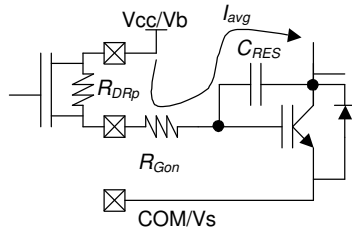

Figure 21: RGon Sizing
**Switching-Time:** For the matters of the calculation included hereafter, the switching time  $t_{sw}$  is defined as the time spent to reach the end of the plateau voltage (a total  $Q_{gc} + Q_{ge}$  has been provided to the IGBT gate). To obtain the desired switching time the gate resistance can be sized starting from  $Q_{ge}$  and  $Q_{gc}$ ,  $V_{cc}$ ,  $V_{ge}^*$  (see Fig. 21):